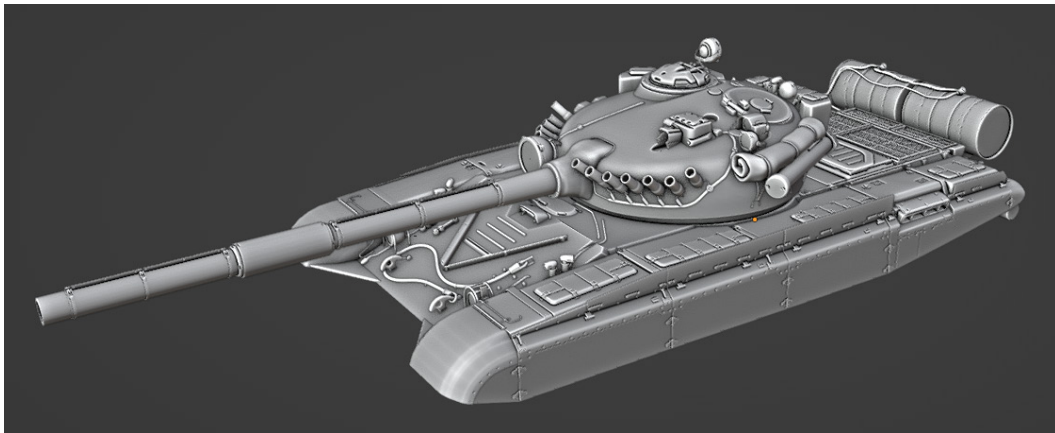

Figure 9.40 – T-72 turret and hull
*Figure 9.40* shows the turret attached to the hull: